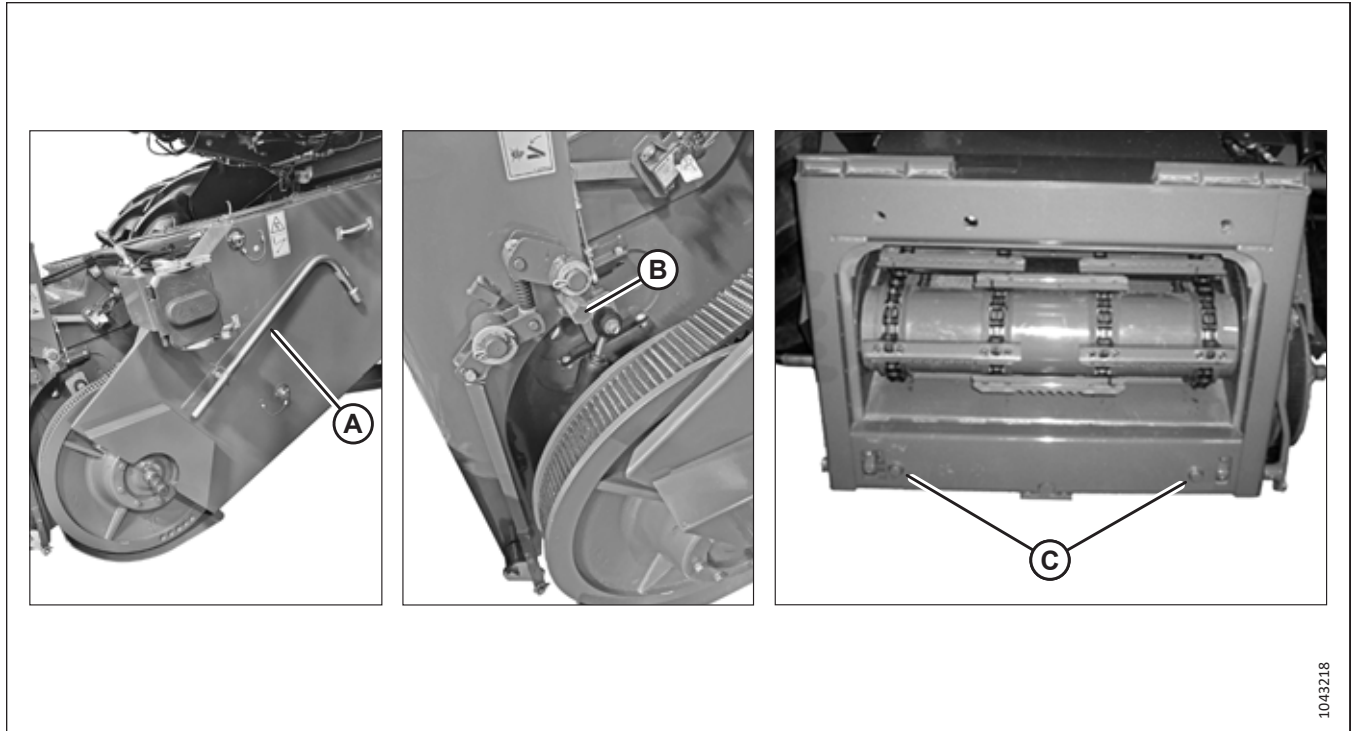

Figure 3.85: Feeder House
Ensure that alignment pins (C) (refer to Figure 3.85, page 85) on the feeder house align with holes (B) in the float module frame.